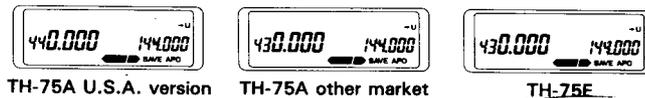

Fig. 1
1. Turn ON the Power Switch. The display should indicate frequency. Fig. 1 shows examples of frequencies that might appear on the various models.